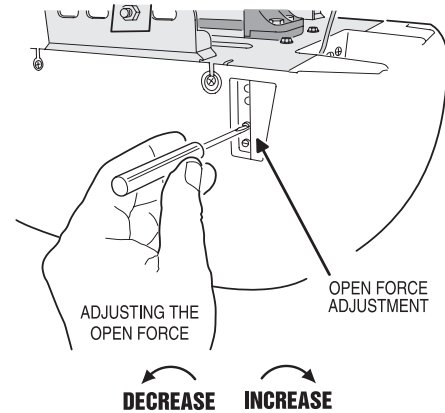

Figure 3 Open force adjustment
- A** Locate the OPEN FORCE adjustment screw (Figure 3).